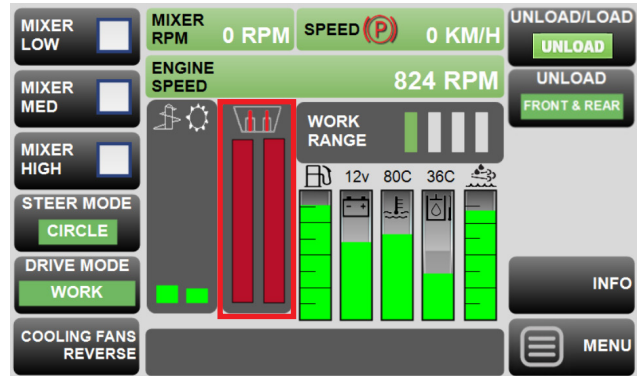

Figure 20: Tub Door Indicator
25. Using the joystick, raise and lower the unload doors and monitor the door position indicator on the Display; see *Figure 20*.